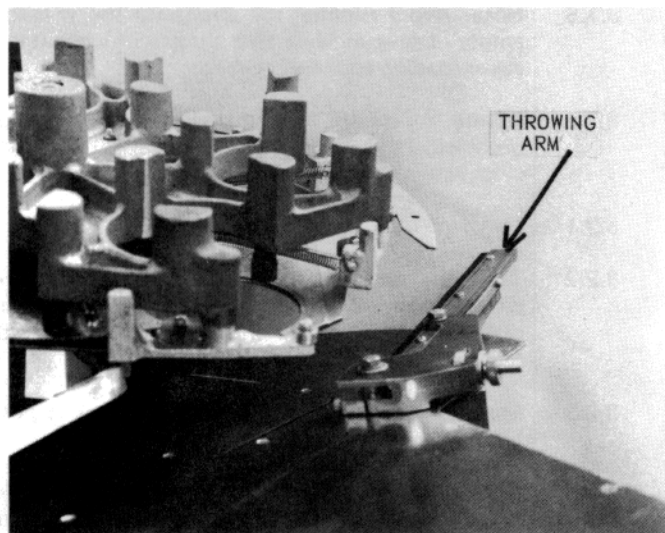

Figure 6 — Uncocked Throwing Arm Position
3. The throwing arm should be in the uncocked position (see Figure 6). If the throwing arm is not in the uncocked position, "Safe Release" the trap as explained in section II. (page 1).